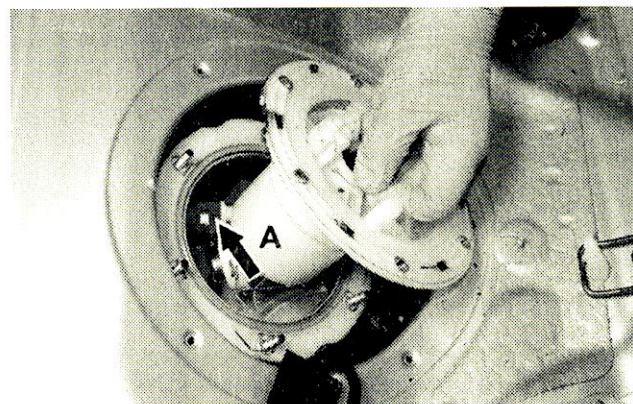

Figure 3
4. Disconnect fuel line connector (arrow, Figure 3) from fuel filter (A).
- Fuel filter (A, Figures 3, 4) for models 204.0/9, 212, 207, 216.376, 221.171/186/176/195/179 is equipped with 3 fuel line fittings.